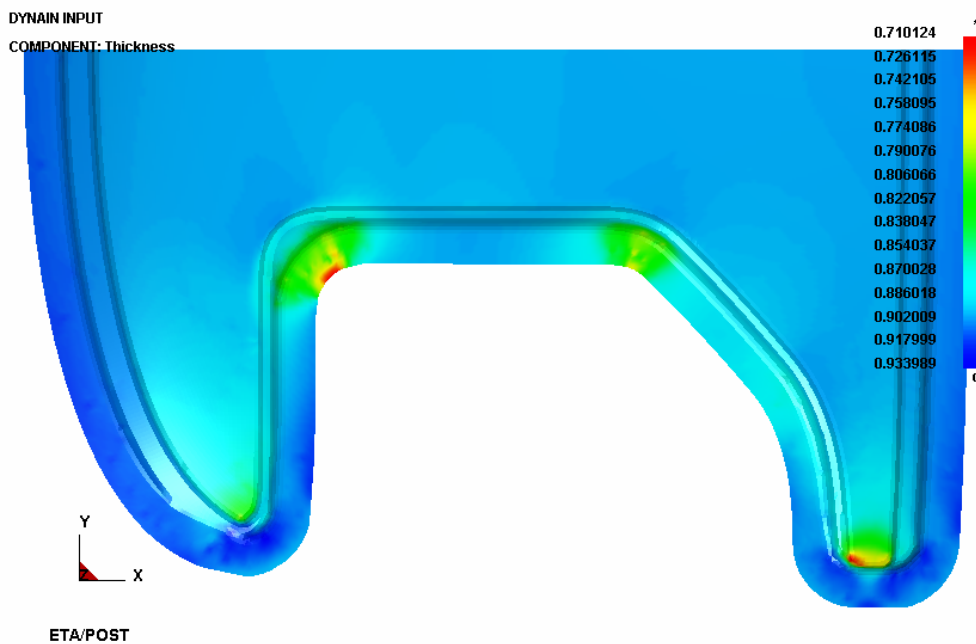

Figure 3.43: Illustration of thickness result
- 3) Click “PLOT” to plot the thickness contour diagram, which is shown in the following figure 3.43.